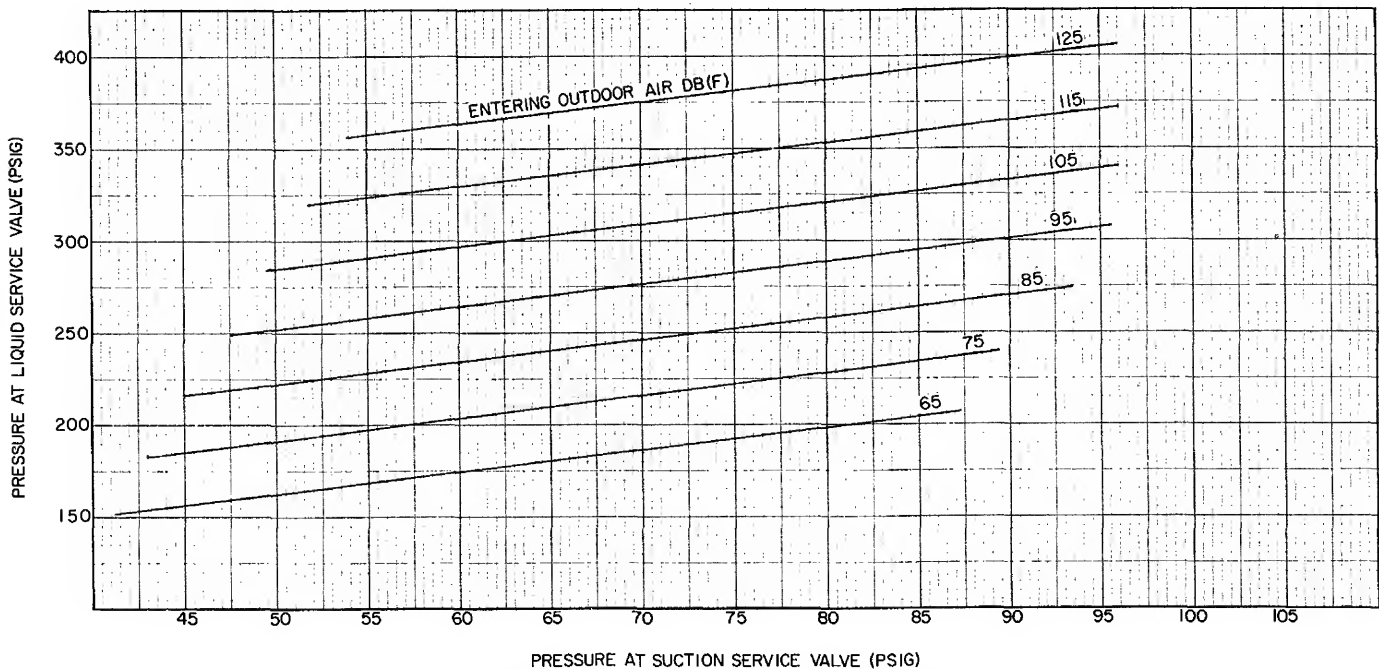

Fig. 6 — 38GS,CC Charging Chart (TXV Systems)
**Charging Chart Method** — For thermal expansion valve systems, use Charging Chart, Fig. 6 or 7. See Carrier Standard Service Techniques Manual, Chapter 1, for procedure. For capillary tube or AccuRater™ systems, use Charging Chart, Fig. 8 or 9 and the following procedure: